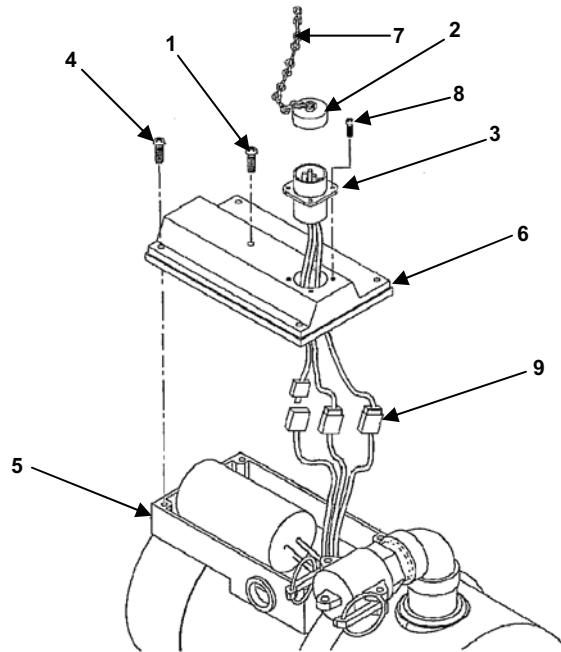

Figure 2. Service Pump Terminal Box (Exploded View).
4. Remove four (4) screws (Figure 2, item 4) from terminal box cover (Figure 2, item 6).
5. Remove receptacle cap (Figure 2, item 2) with lanyard (Figure 2, item 7) from receptacle (Figure 2, item 3).
6. Remove terminal box cover (Figure 2, item 6) from terminal box with gasket (Figure 2, item 5).
7. Tag wires from receptacle (Figure 2, item 3) to assist during installation.
8. Remove four (4) screws (Figure 2, item 8) from receptacle (Figure 2, item 3) on terminal box cover (Figure 2, item 6).
9. Disconnect the quick connectors (Figure 2, item 9) from three (3) wires (black, green, white) from the pump (Figure 2, item 5).
10. Remove receptacle (Figure 2, item 3).
11. Remove screw (Figure 2, item 1) and lanyard (Figure 2, item 7) in terminal box cover (Figure 2, item 6).
1. Connect three (3) wires (black, green, white) to the pump by fitting the quick connectors (Figure 2, item 9) together.
3. Install receptacle (Figure 2, item 3) on terminal box cover (Figure 2, item 6). Secure with four (4) screws (Figure 2, item 8). Tighten securely.
4. Install terminal box cover (Figure 2, item 6) on pump (Figure 2, item 5). Secure with four (4) screws (Figure 2, item 4). Tighten securely.
5. Install screw (Figure 2, item 1) to secure lanyard (Figure 2, item 7) in terminal box cover (Figure 2, item 6). Tighten securely.